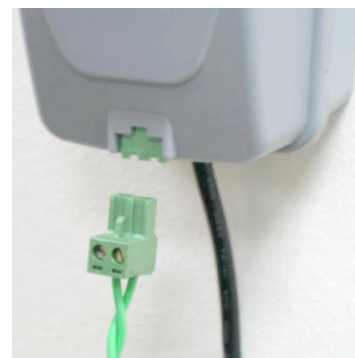

Figure 1.17
- Plug the perimeter wire connector into the Perimeter Switch (see figure 1.17)